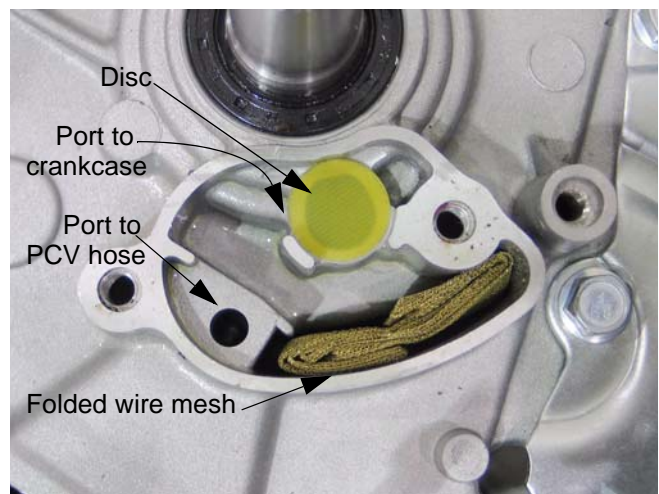

Figure 2.8
9. The folded wire mesh in the chamber also helps separate the oil from the air. See Figure 2.8.